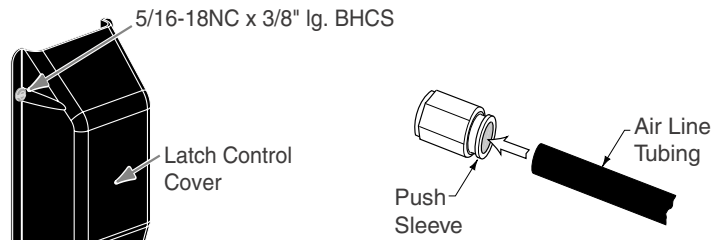

Fig. 17
- E) Install latch covers with 5/16"-18NC x 3/8" lg. BHCS, Fig. 17.